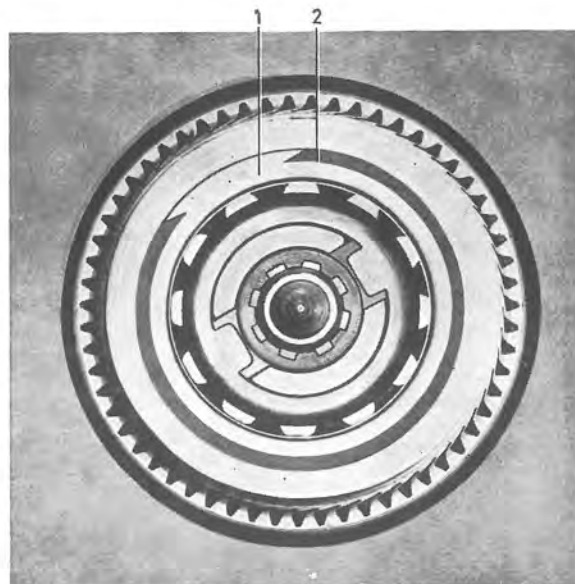

Fig. 4-54. Installing oil thrower
6. Fit the thrust washer and then the uni-directional clutch in position on the output shaft, see Fig. 4-53. Fit the oil thrower and install the circlip, see Fig. 4-54.